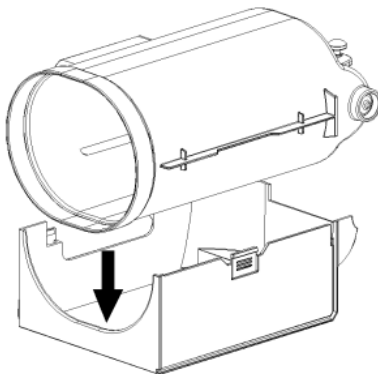
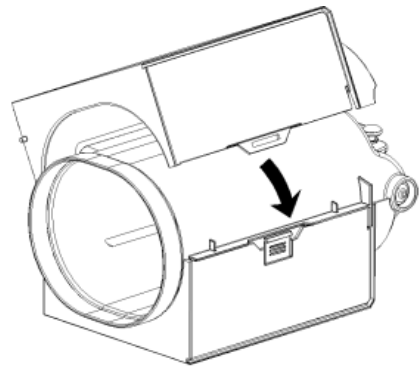

Fig.12
Fig.13
1. Place the right cover of the loading barrel on a flat surface, place the loading barrel inside (as shown in Figure 12), and then match and fasten the left cover of the loading barrel with the loading barrel (as shown in Figure 13).